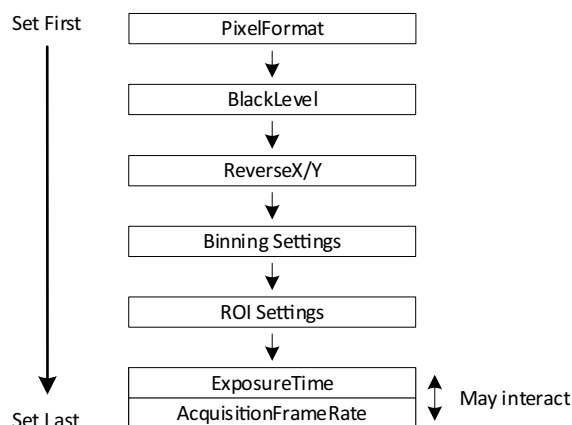

Figure 39: Interdependencies between controls
The conversion between time and clock cycles affects control values. Controls for pixel format, bandwidth, ROI, and exposure time are related to each other. Changing values for one control can change values for another control. For example, frame rates can be reduced when **MIPI Data Format** is changed subsequently. Figure 39 shows the interdependencies.
- To avoid readjustments, apply settings in the order shown in Figure 39.